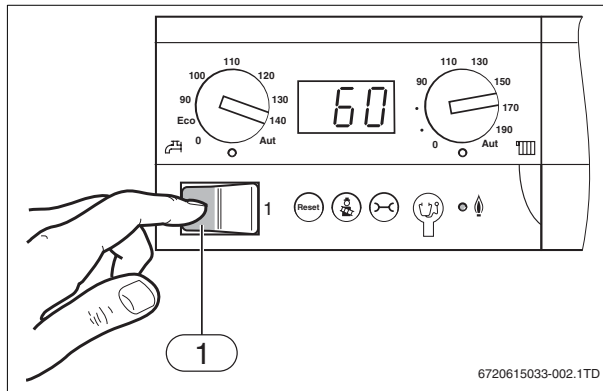

Fig. 1 Mains switch
- ▶ Switch off the heating system using the main switch (→ fig. 1).
- ▶ Switch on the heating system by setting the main switch to position "1" (→ fig. 1, page 5).